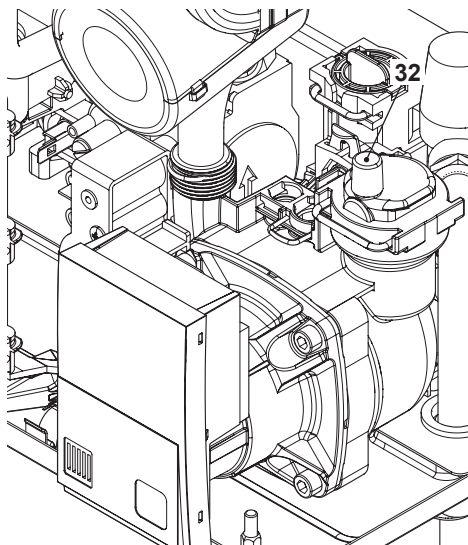

Fig. 7.2
- Loosen the cap on the automatic air purger valve 32 in Fig. 7.2 and leave open permanently.